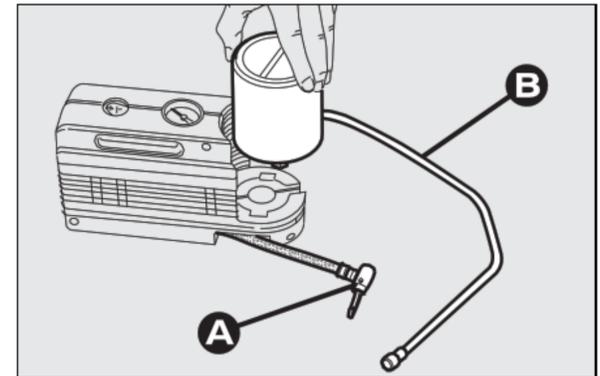

fig. 17
- disconnect connection **A-fig. 17**;